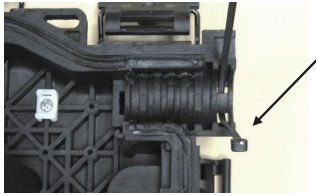

Figure 7
3.1 Install black tie wrap into housing. (Figure 7)